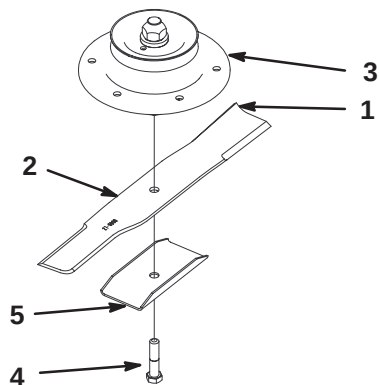
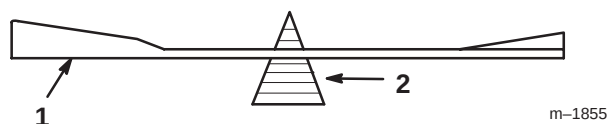

Figure 41
Figure 43
1. Hold the blade end using a rag or thickly-padded glove. Remove the blade bolt, blade stiffener and blade from the spindle shaft (Fig. 41).
2. Check the balance of the blade by putting it on a blade balancer (Fig. 43). If the blade stays in a horizontal position, the blade is balanced and can be used. If the blade is not balanced, file some metal off the end of the sail area only (Fig. 41). Repeat this procedure until the blade is balanced.
1. Install the blade onto the spindle shaft (Fig. 41).
Important The sail part of the blade must be pointing upward, toward the inside of the mower to ensure proper cutting (Fig. 41).
2. Install the blade stiffener and blade bolt (Fig. 41). Torque the blade bolt to 85–110 ft-lb (115–140 N•m).